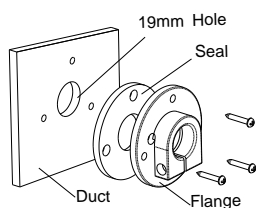
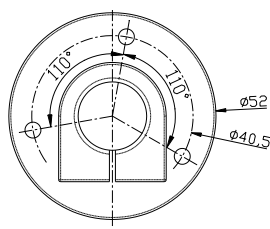

Fig.9
Fig.10
1. Insertion installation: as shown in Fig.9, drill a hole with a diameter of 19 mm on the installation surface. First fix the flange seal on, then insert the probe through the flange into. After adjusting the probe insertion depth, lock the flange screw to make it hold the probe tightly. The flange installation size is shown in Fig.10. If possible, the probe connecting cable can also be installed inside the embedded pipe in the wall, which will make the installation more pleasing.